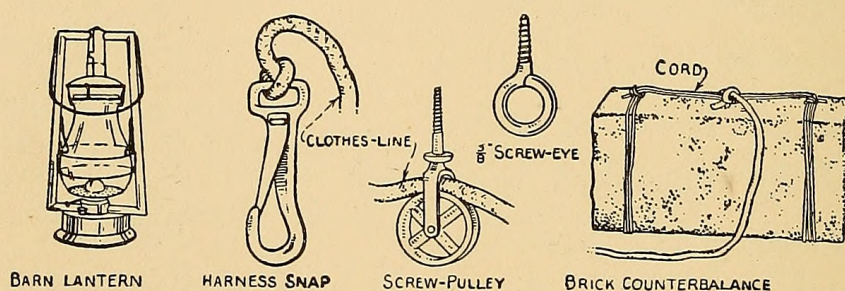

FIG. 182. — These things are required for the Home-made Hanging Lamp.
*cord*, and a *brick* (Fig. 182). Screw the pulley into